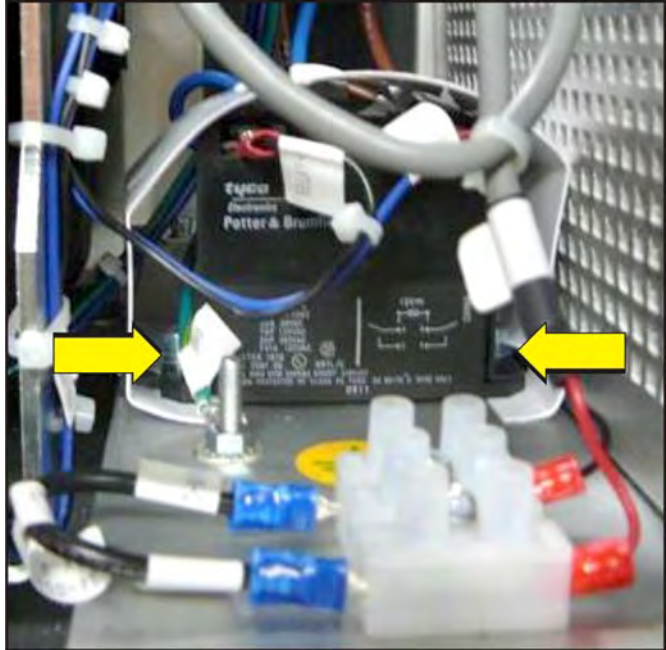

Figure 5-47 Remove AC Relay
5. Using a 3mm hex key, remove the screw closest to the blower and loosen the screw closest to the igniter shield. (**Figure 5-47**)